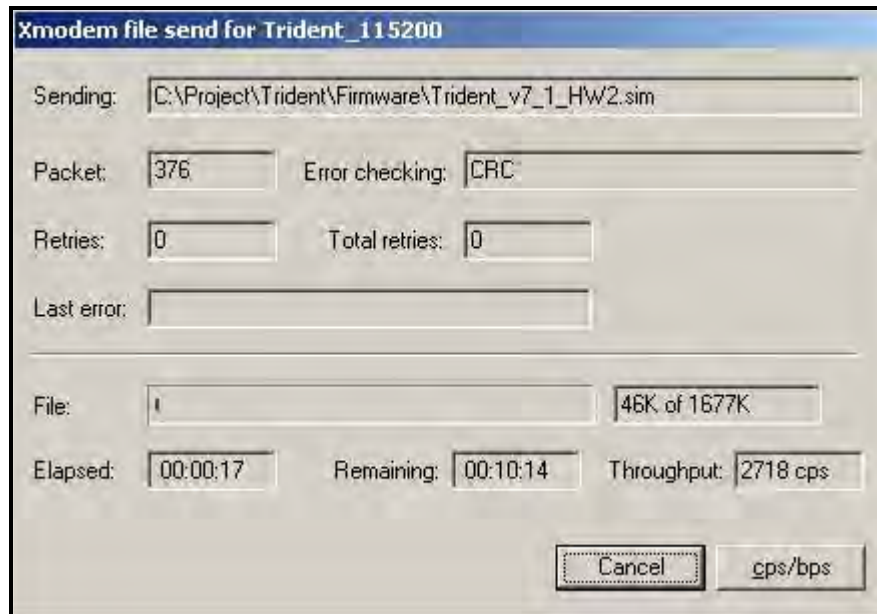
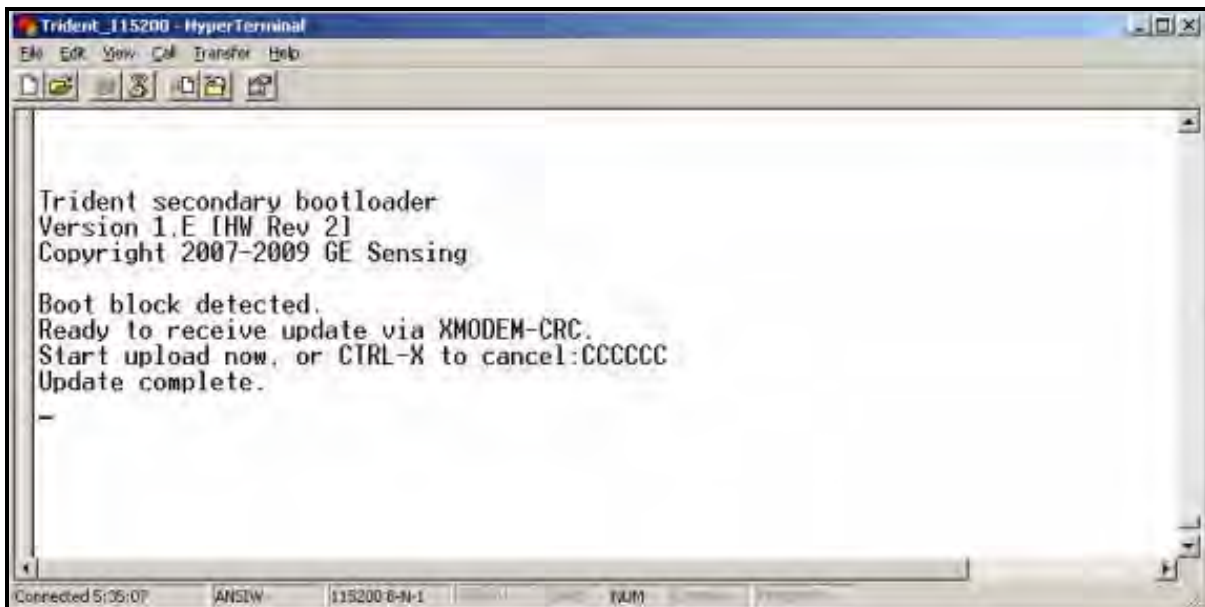

Figure 225: Sentinel LCT Transfer Status Window
Figure 226: PC Transfer Status Window
- In Hyperterminal, select *Transfer*, and then *Send File*. (The protocol should be Xmodem.) Use *Browse* to locate the file, which will have a .sim extension. Double click on this file and click the *Send* button. The screens on the **Sentinel LCT** (Figure 225) and on Hyperterminal (Figure 226) should both display the status of the transfer.